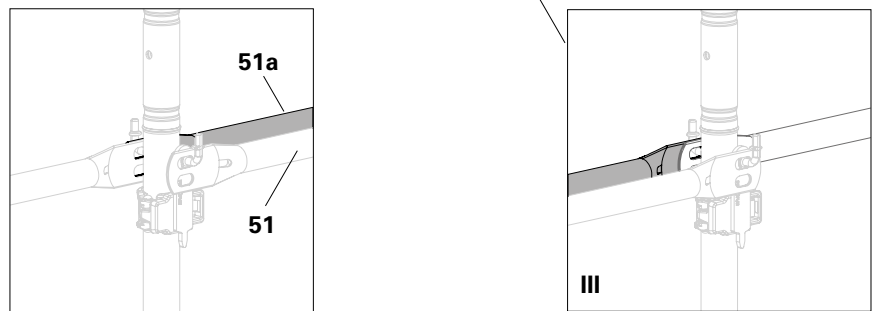

Fig. B9.01b
- The side on which the guardrail posts have to be re-positioned depends on the assembly direction. The other guardrail side remains unchanged. (Fig. B9.01b)